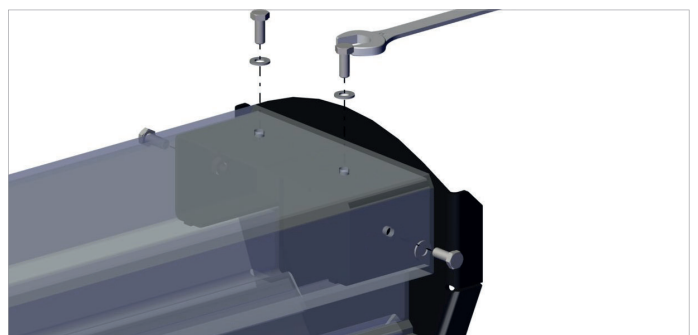

Fig. 6.3.5 Mounting the cover plate
- Mount the CRS cover plate to the other end of the rail, and secure with 4x M8x20 bolts and 4x M8 washers using wrench 13 (½ in.). Refer to fig. 6.3.5.